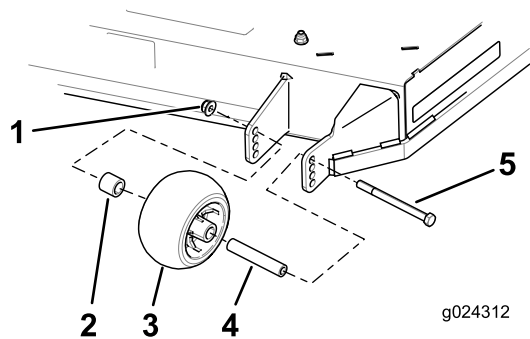

Figure 31
3. Remove the flange nut, anti-scalp roller, and bolt from the bracket (Figure 31).
- Align the bolt and anti-scalp roller in the hole of the bracket that matched the closest height-of-cut position (Figure 31).
- Insert the bolt into the bracket hole and secure the bolt and anti-scalp roller with the flange nut (Figure 31).